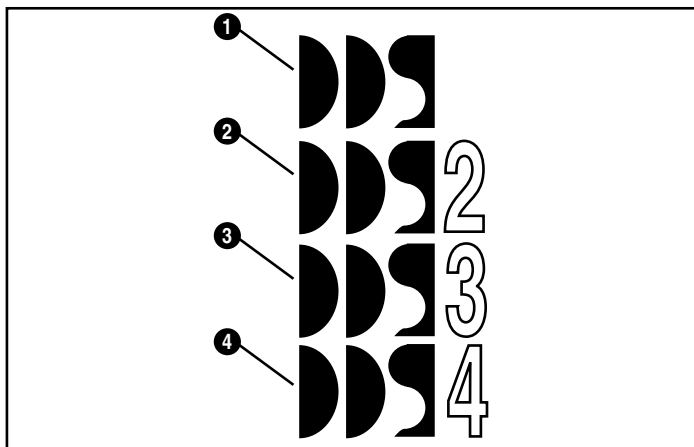

Figure 1-2. DDS Logo Media
To identify computer-grade DDS media easily, look for the DDS logos (See Figure 1-2), including ❶ DDS-1, ❷ DDS-2, ❸ DDS-3, and ❹ DDS-4. These indicate that the media meets the DDS specifications laid down by the ECMA, ISO/IEC and ANSI standards.